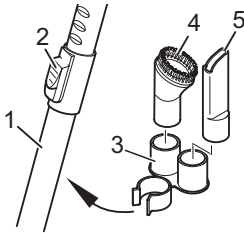

Fig. 5
5. Push the accessory holder (Fig. 5/3) onto the telescopic tube (Fig. 5/1) below the telescopic tube lock (Fig. 5/2). Then push the furniture brush (Fig. 5/4) and the crevice nozzle (Fig. 5/5) onto the holder.
■ The crevice nozzle, the furniture brush and the upholstery nozzle are included as **accessories** in the scope of delivery. They can be placed on the accessory holder (Fig. 5/3) when not in use.